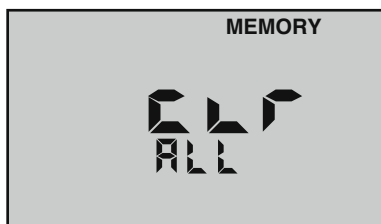

Figure 9
6. To clear all records: After pressing , scroll down. “CLR ALL” will be displayed (see Figure 9).